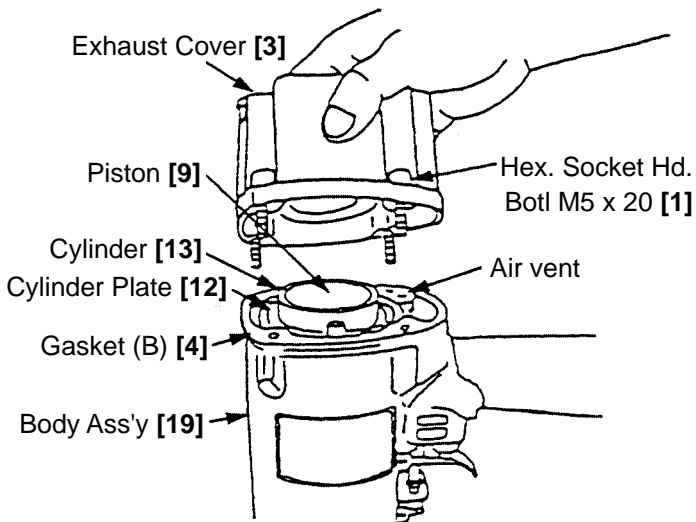

Fig. 11
**(a) Disassembly (Refer to Figs. 11, 12 and 13.)**
- Next, as illustrated in Fig. 11, screw the two previously removed Hex. Socket Hd. Bolts M5 x 20 [1] into the provided holes on the Cylinder Plate [12]. Gripping these two bolts, simultaneously turn and pull upward to remove the Cylinder Plate [12], the Cylinder [13] and the related parts.